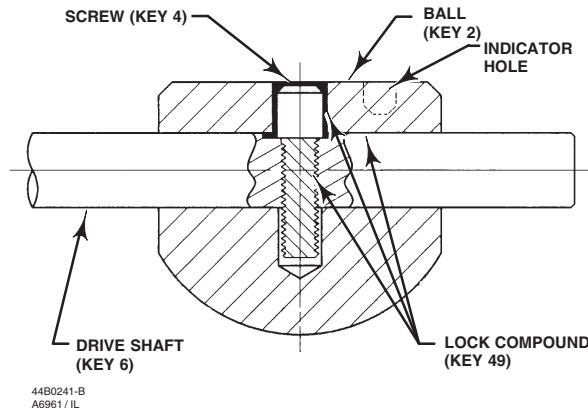

Figure 22. Screw Installation for Design V200, Size 1-Inch Valves with VTC Ceramic Micro-Notch Ball Construction
2. **Ceramic Micro Notch ball constructions:** A screw (key 4, figure 22) is used to attach the ball to the drive shaft.
to the shaft. An adhesive is used to lock the screw in the valve shaft (keys 4 and 6, figure 22).